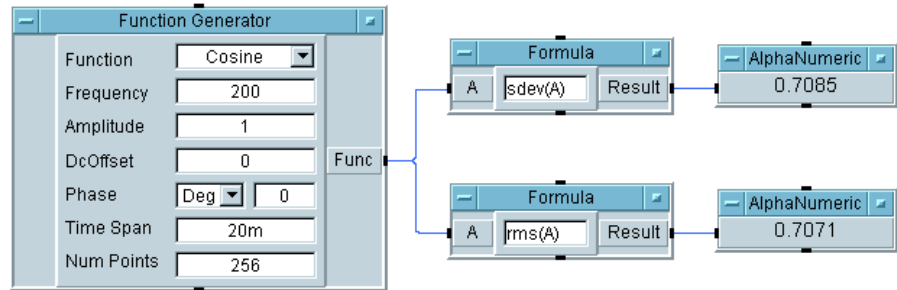

Figure 119 Formula Examples Using VEE Functions
- 5 Run the program. The program displays the same answers when these functions are put into the Formula object as it did when they were used as independent objects, as shown in Figure 119 on page 193.